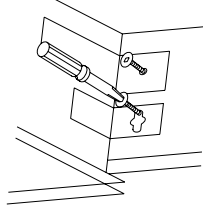

Fig.6
4. Hang housing from nails and pound nails tight. To ensure a noise-free mount, pound another nail through the top hole of mounting bracket A. (Fig.6)